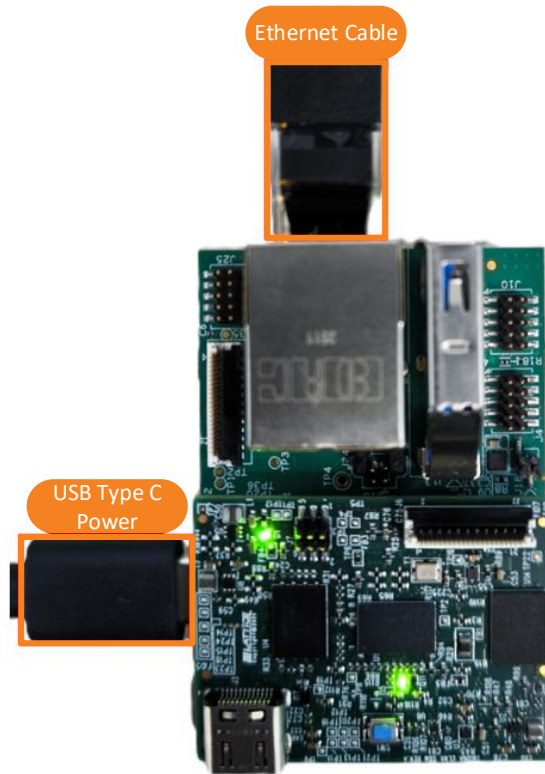

Figure 5.18. CrossLinkU-NX SoM with Ethernet Connection
- Connect an Ethernet LAN cable from your machine to the CrossLinkU-NX SoM kit's LAN connection (as shown in Figure 5.18).